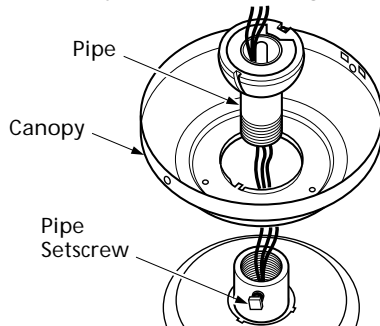

Figure 4a - Inserting Pipe through Canopy
1. Insert the pipe through the canopy as shown in Figure 4a.
2. Screw pipe into fan assembly until tight. **IMPORTANT!** Tighten pipe setscrew as shown in Figure 4a.